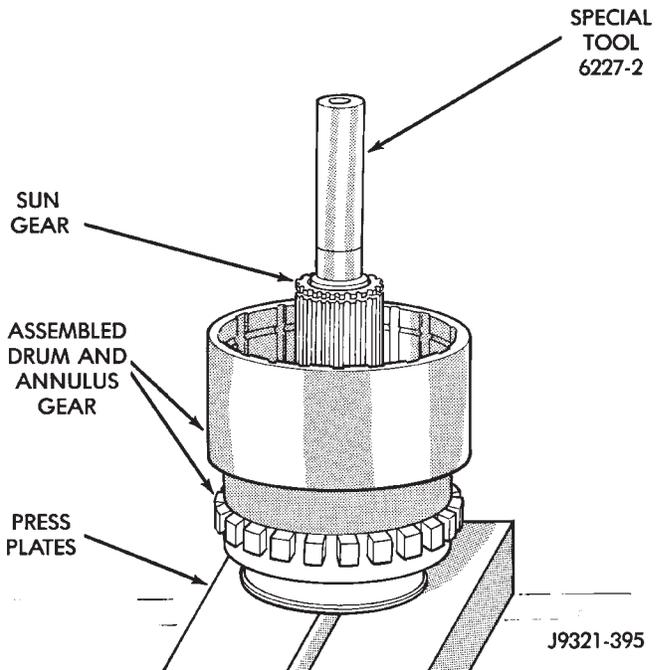

Fig. 245 Alignment Tool Installation
(16) Align splines in hubs of planetary gear and overrunning clutch with Alignment tool 6227-2 (Fig. 245). Insert tool through sun gear and into splines of both hubs. Be sure alignment tool is fully seated before proceeding.